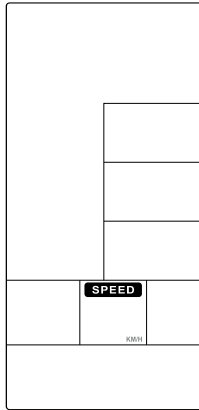

Figure 50
1. Hold on START & ENTER key for 2s, buzzer will sound 1 long beep. SPEED keep lighting up, M/H, KM/H flash once per second (Figure 50~51).